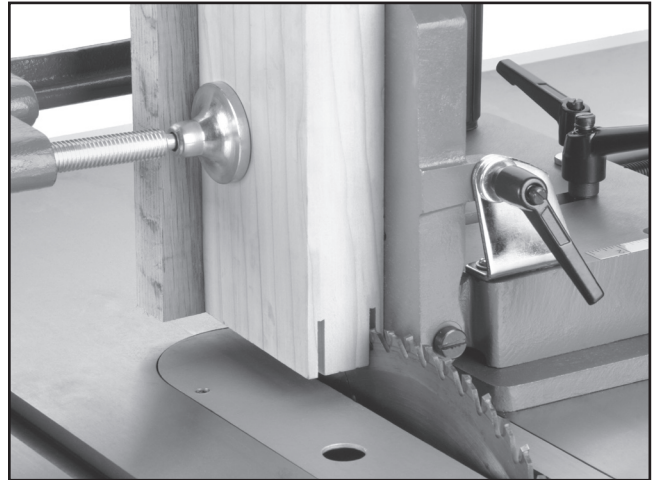

Figure 23. Second structural cheek cut.
6. Turn the saw **ON** and make the second cut as shown in **Figure 23** and turn **OFF** the saw.